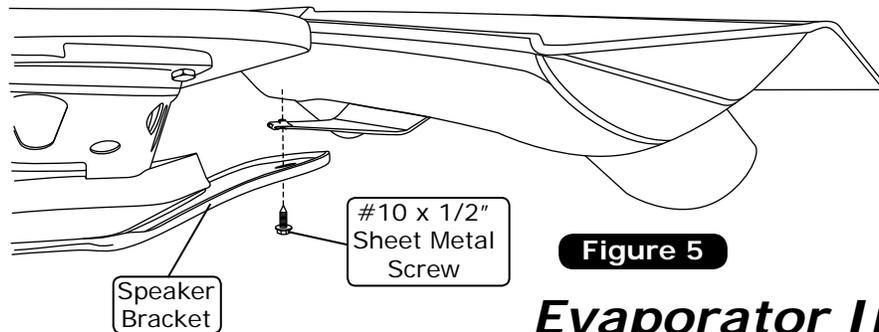

Figure 5
- Using a #10 x 1/2" sheet metal screw, secure the speaker bracket to the bracket on the defrost duct (See Figure 5, below).